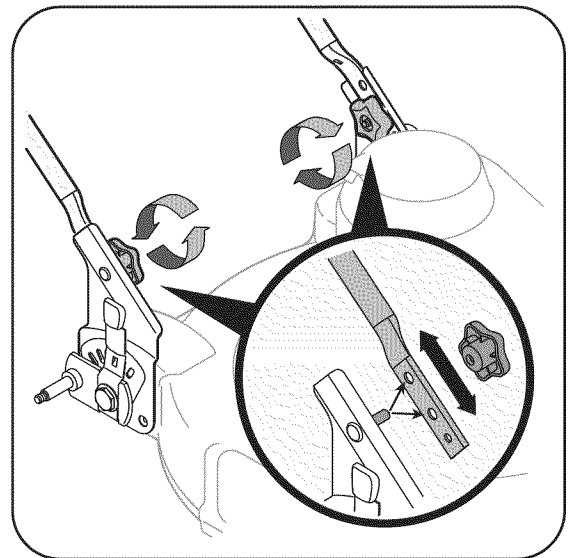

Figure 3-12: Adjusting the handle height.
2. Remove the star knobs shown in Figure 3-12 and remove the lower handles.
3. Position each handle bracket stud into the appropriate hole in the lower handle, Figure 3-12. Each end of the lower handle must be placed in the same position.